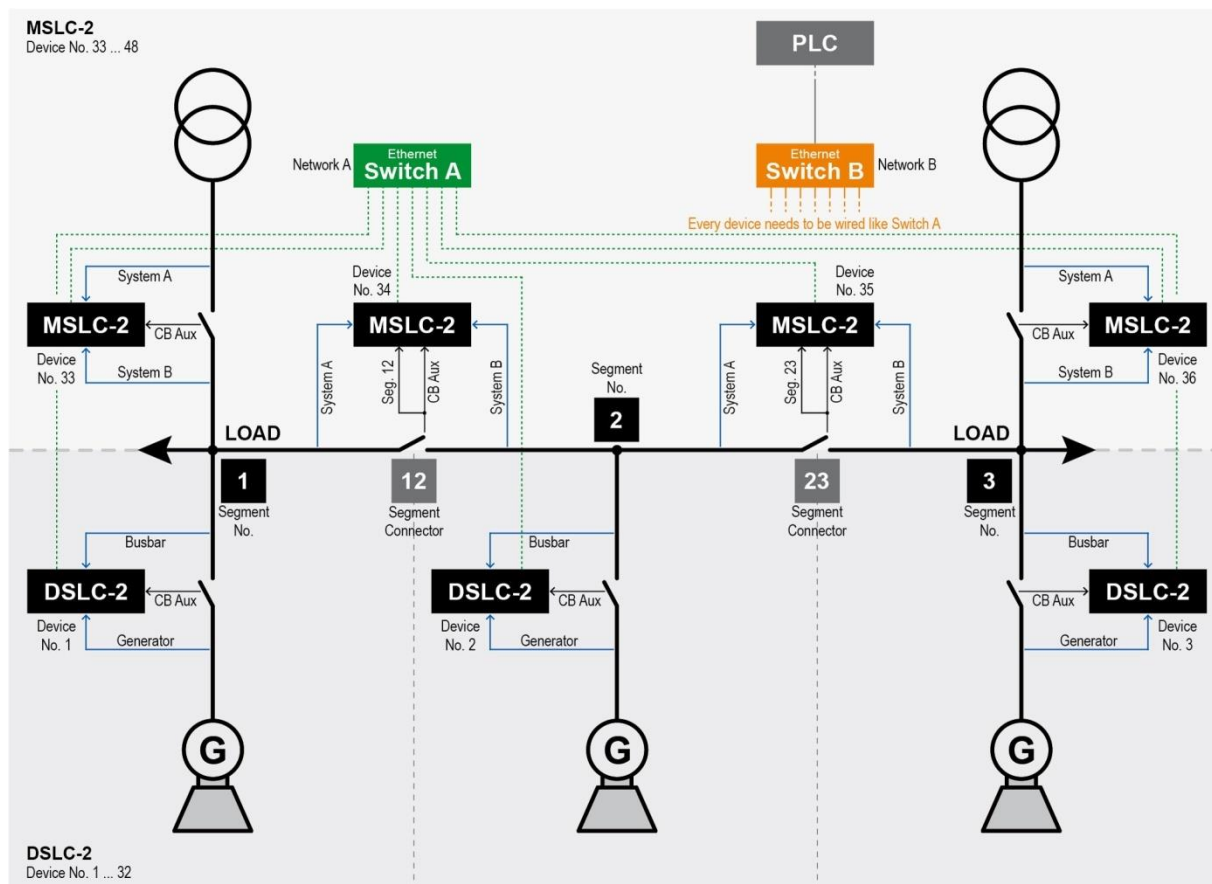

Figure 3-118: Example of an online diagram with networks in single mode
6. Draw the switches and networks for Ethernet channel A and B, if used (refer to Figure 3-118).